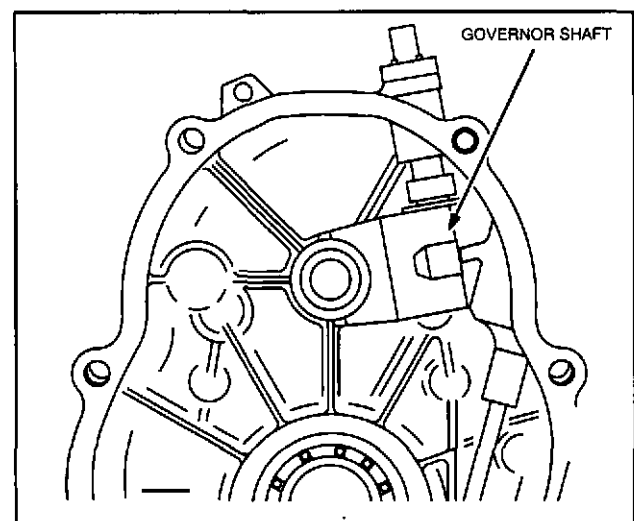
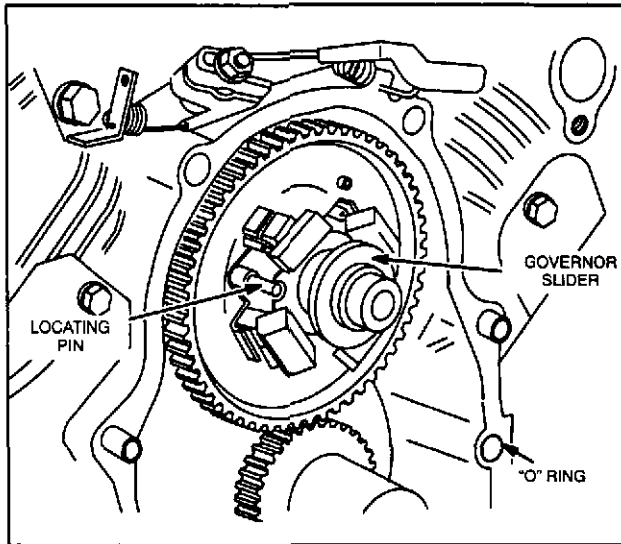
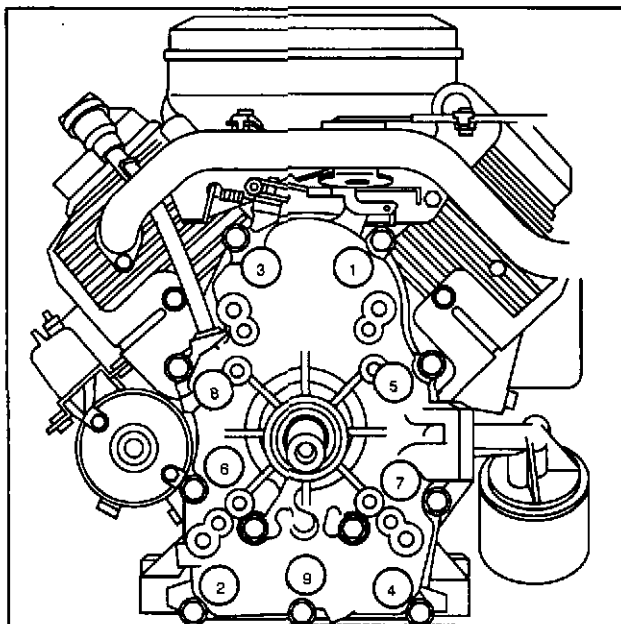

Fig. 6 - Governor Shaft Position
Fig. 7 - Governor
Fig. 8 - Torque Bolts
**WARNING:** MAKE SURE GOVERNOR SHAFT IS IN PROPER POSITION BEFORE INSTALLING CRANKCASE COVER, Fig. 6. IF GOVERNOR SHAFT IS NOT IN PROPER POSITION DURING ASSEMBLY, PROPER GOVERNOR ADJUSTMENTS CANNOT BE MADE AND ENGINE OVERSPEEDING COULD OCCUR. ENGINE DAMAGE, PERSONAL INJURY AND/OR PROPERTY DAMAGE ARE POSSIBLE.
Install governor slider onto shaft making sure that slot on slider fits over locating pin on cam gear, Fig. 7. Be sure the weights are in the proper location so that they will be able to move freely without binding.
Place new cover gasket on crankcase. Rotate governor shaft clockwise to end of travel, Fig. 6. Insert Tool #19334, yellow seal protector, through seal. Slide cover onto crankshaft. No force should be used. NOTE: Be sure "O" ring is installed in cylinder, Fig. 7. Torque cover bolts in sequence shown to 17 Nm (150 in. lbs.), Fig. 8.